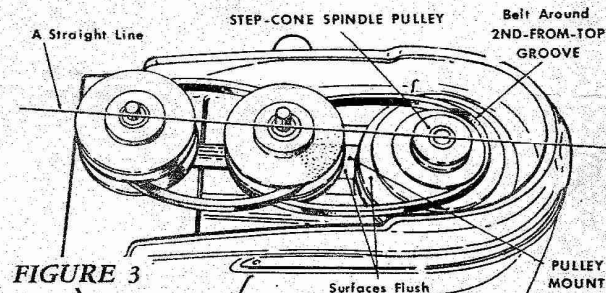
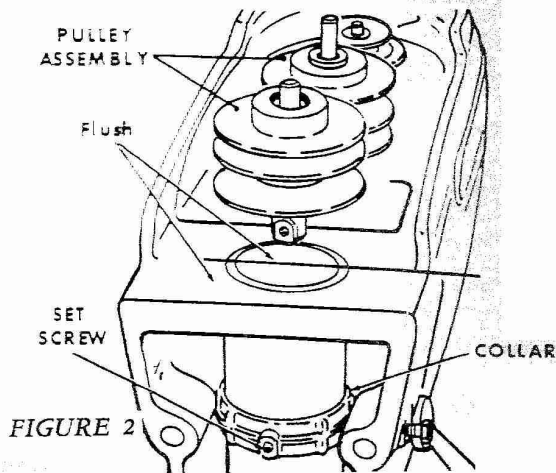

FIGURE 3
FIGURE 2
4. Lower the drill press head until the top surface (of the head) which fits over the column is exactly flush with the top of the column (FIG. 2)—and lock the head on the column. It is important that you NEVER let the head drop further down on the column than this. In dropping down it would carry the Pulley Assembly with it—would jam the rear of the assembly onto the column top, and might (due to the weight of the head) damage the assembly.
head (FIG. 3). Next, raise or lower the Collar (FIG. 2) on the column until the top surface of the Pulley Mount is EXACTLY flush with the TOP EDGE of the largest groove of the Step-Cone Spindle Pulley. Without changing this, rotate the Collar on the column as necessary to EXACTLY align the two pulleys of the Pulley Assembly with the Step-Cone Spindle Pulley. Now tighten the Set Screw in the Collar.
6. Place the forward V-Belt (SR-200) around the lower groove of the front pulley in the Pulley Assembly and around the 2nd-From-Top Groove of the Step-Cone Spindle Pulley (FIG. 3). Now check to make certain that this belt will run straight. If your settings in paragraph 5 were correct, it will. Do NOT try to place it around any other sheave of the Step-Cone Spindle Pulley.
7. Place the rear V-Belt (SR-170) around the upper groove of the front pulley and around the lower groove of the rear pulley in the Pulley Assembly (FIG. 3).